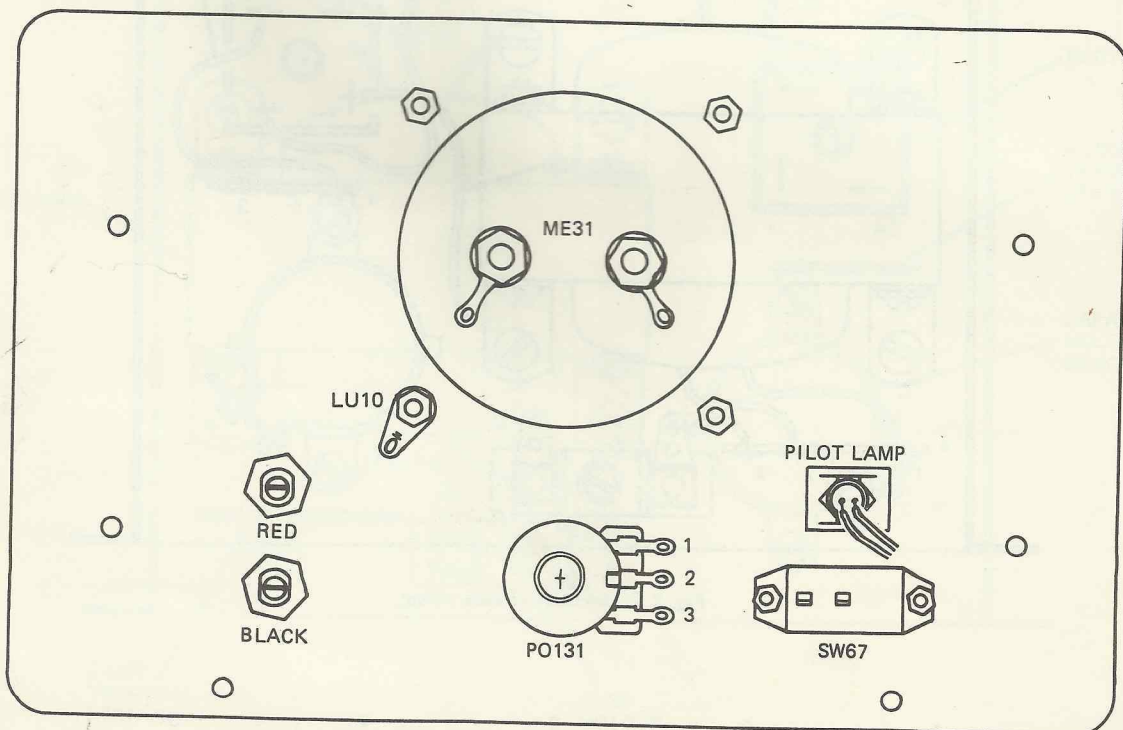

Fig. 3. Rear view of the front panel with the parts in place.
Figure 3 shows the parts installed on the front panel (PA61), looking at the rear of the panel.
- (1) Insert the red jack through the hole in the front of the panel marked with the plus (+) sign, and secure it by threading the nut provided on the back of the panel. Tighten the nut securely (1)
- (2) Insert the black jack through the hole in the front of the panel marked with the minus (-) sign, and secure it by threading the nut provided on the back of the panel. Tighten it securely (2)
- (3) Place the control lockwasher over the bushing of the 10k-ohm control. Insert the 10k-ohm potentiometer through the back of the panel in the 3/8" hole in the lower center of the panel. Place a flat washer and a control nut over the bushing. Position the terminals on the potentiometer as shown in Fig. 3, and then tighten the nut to hold the potentiometer
(4) Locate two 3/8" X 6-32 black Phillips head screws and insert them through the holes adjacent to the words OFF and ON on the front of the panel. Hold the screws in place and turn the panel over. Then put the on-off switch into place over the screws. Notice that the two terminals on the on-off switch are toward the center of the panel. Now put a lockwasher on each screw and then a 6-32 hex nut and tighten securely. . . (4)
(5) Insert the leads on the pilot light assembly through the hole beneath the word POWER on the front of the panel and then push the light assembly firmly up against the front panel. Slide the spring clip over the leads and over the barrel of the light until it is pressed firmly against the rear of the panel. If the pilot light is not held firmly in place, it is because you haven't pushed the clip against the back of the panel firmly enough (5)
(6) Mount the meter on the front of the panel. The barrel goes through the large hole and the four mounting screws through the four small holes. Slip a solder lug over the lower left mounting screw and position it as shown in Fig. 3. Place